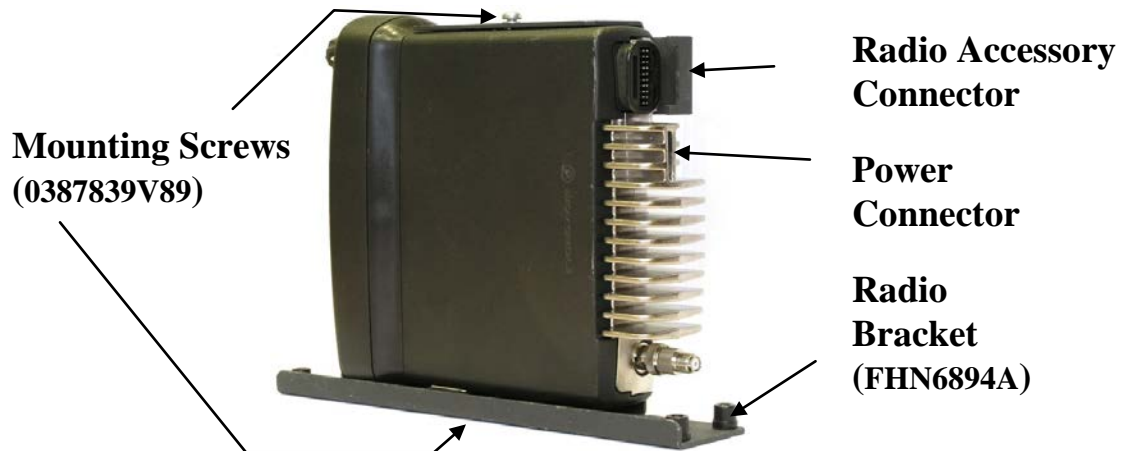
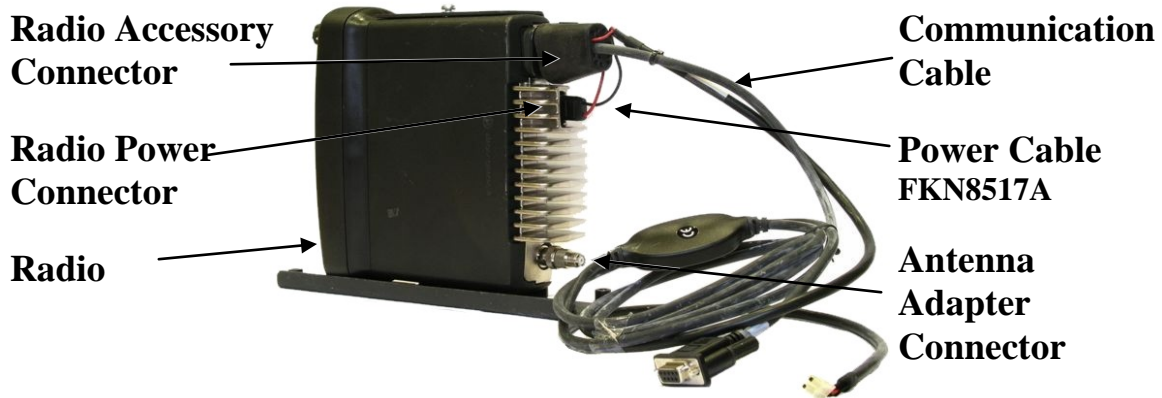
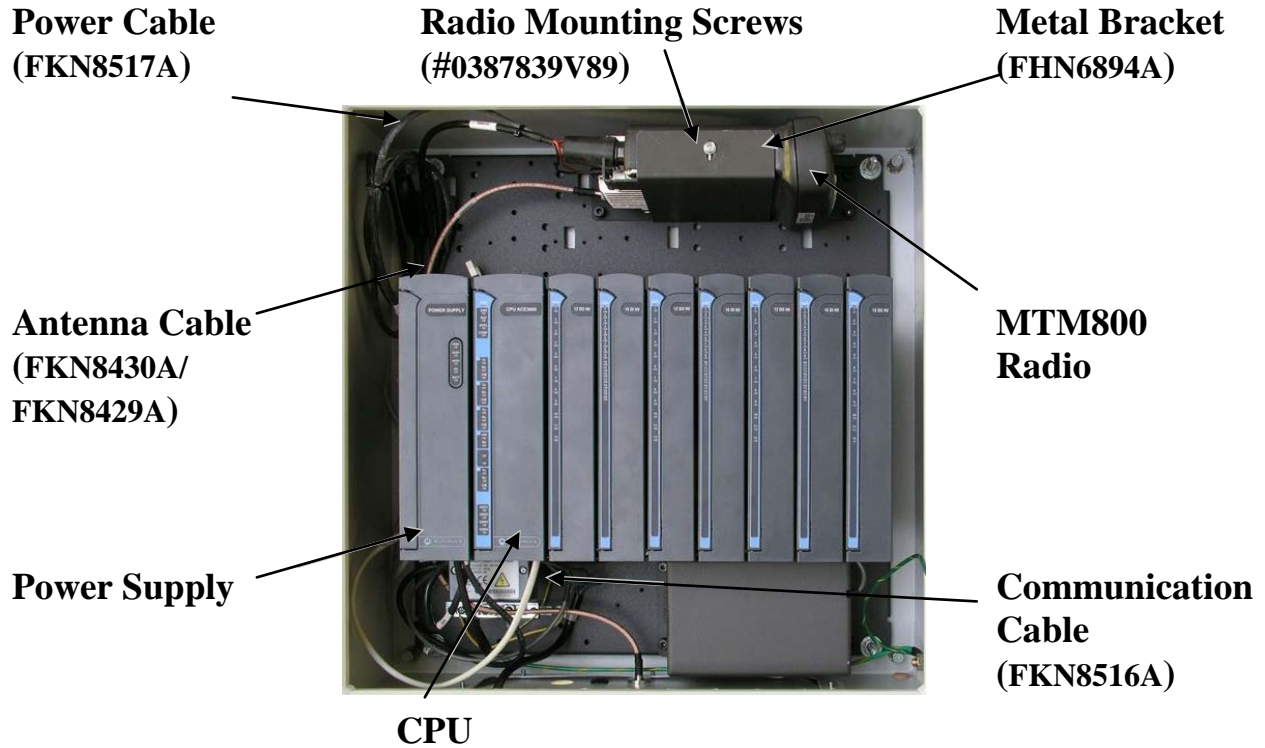

Figure 21-89 MTM800 Radio and Metal Bracket
Figure 21-90 MTM800 Radio Cable Connections
Figure 21-91 MTM800 Radio Installed on ACE3600 Chassis
2. Connect the 20-pin connector radio signal and power cable (FKN8517A) to the accessory connector on the radio. (See Figure 21-89 and Figure 21-90.)
3. Connect the end of the power cable (FKN8517A) to the radio's power connector. (See Figure 21-89 and Figure 21-90.) Connect the other end of the power cable to the AUX1A or AUX1B connector on the ACE3600 RTU Power Supply unit. (See Figure 21-91.)
4. Connect the communication cable (FKN8516A) to the end of the power and signal cable using the attached screws (FKN8517A). (See Figure 21-90.) Place one Fair-Rite soft ferrite (#7683477X01 from the supplied ferrite kit FHN7007A) on the cable near the bottom of the CPU door, loop the cable one turn around it, and clamp the ferrite on the cable. Connect the other end of the communication cable to the plug-in port of the ACE3600 CPU.
5. Mount the MTM800 radio onto the metal bracket (#0789422V45) using the two supplied radio mounting screws from kit FHN6894A, # 0387839V89 on the top and bottom of the radio. (See Figure 21-89, Figure 21-90 and Figure 21-91.)
6. Connect the antenna cable (FKN8430A/FKN8429A^{*}) to the antenna adapter connector on the radio and to the opening on the bottom of the ACE3600 housing using the appropriate bushing. (See Figure 21-91.) Mount the complex (bracket and radio) on the RTU chassis above the CPU and I/O modules, using the four built-in screws. (See Figure 21-91.)